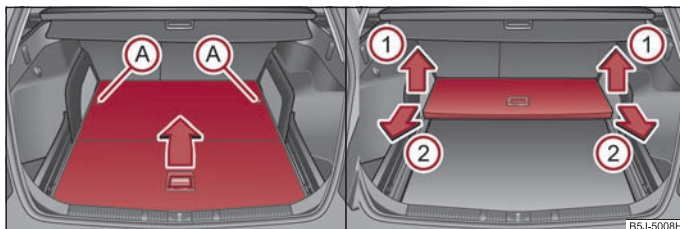

Fig. 62 Luggage compartment: Fold up variable loading floor / remove
- Unlock the variable loading floor by turning the locking bolts (A) by approx. 180° to the left ⇒ fig. 62.
- Lift up the variable loading floor in direction of arrow (1) ⇒ fig. 62 and take out the loading floor by pulling in direction of arrow (2) ⇒ fig. 62.